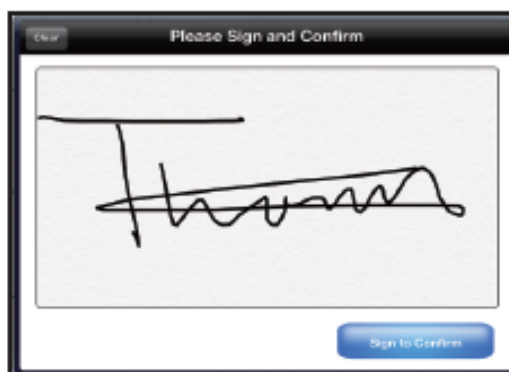

Fig. 5.8 Signature
②Doctor confirm: Sign your name to confirm the diagnosis. The signature is kepted for printing and email(See Fig.5.8).